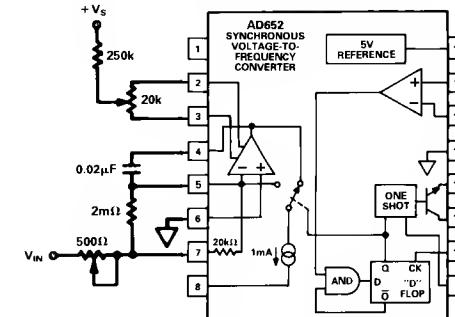
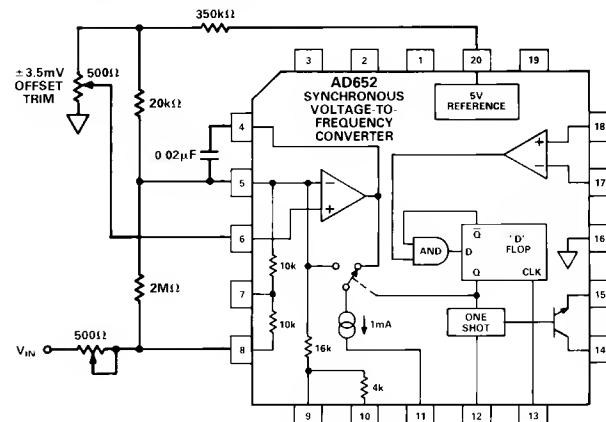

Figure 10a. Cerdip Gain and Offset Trim
Figure 10b. PLCC Gain and Offset Trim
adjustment is then accomplished using a $500\ \Omega$ series trimmer. See Figures 10a and 10b. When negative input voltages are used, this $500\ \Omega$ trimmer will be tied to ground and Pin 6 will be the input pin.
The offset of the op amp may be trimmed to zero with the trim scheme shown in Figures 10a for the cerdip packaged device and Figure 10b for the PLCC packaged device. One way of trimming the offset is by grounding Pin 7 (8) of the cerdip (PLCC) packaged device and observing the waveform at Pin 4. If the offset voltage of the op amp is positive, then the integrator will have saturated and the voltage will be at the positive rail. If the offset voltage is negative, then there will be a small effective input current that will cause the AD652 to oscillate and a sawtooth waveform will be observed at Pin 4. The trimpot should be adjusted until the downward slope of this sawtooth becomes very slow, down to a frequency of 1 Hz or less. In an analog-to-digital conversion application, an easier way to trim the offset is to apply a small input voltage, such as 0.01% of the full-scale voltage, and adjust the trimpot until the correct digital output is reached.